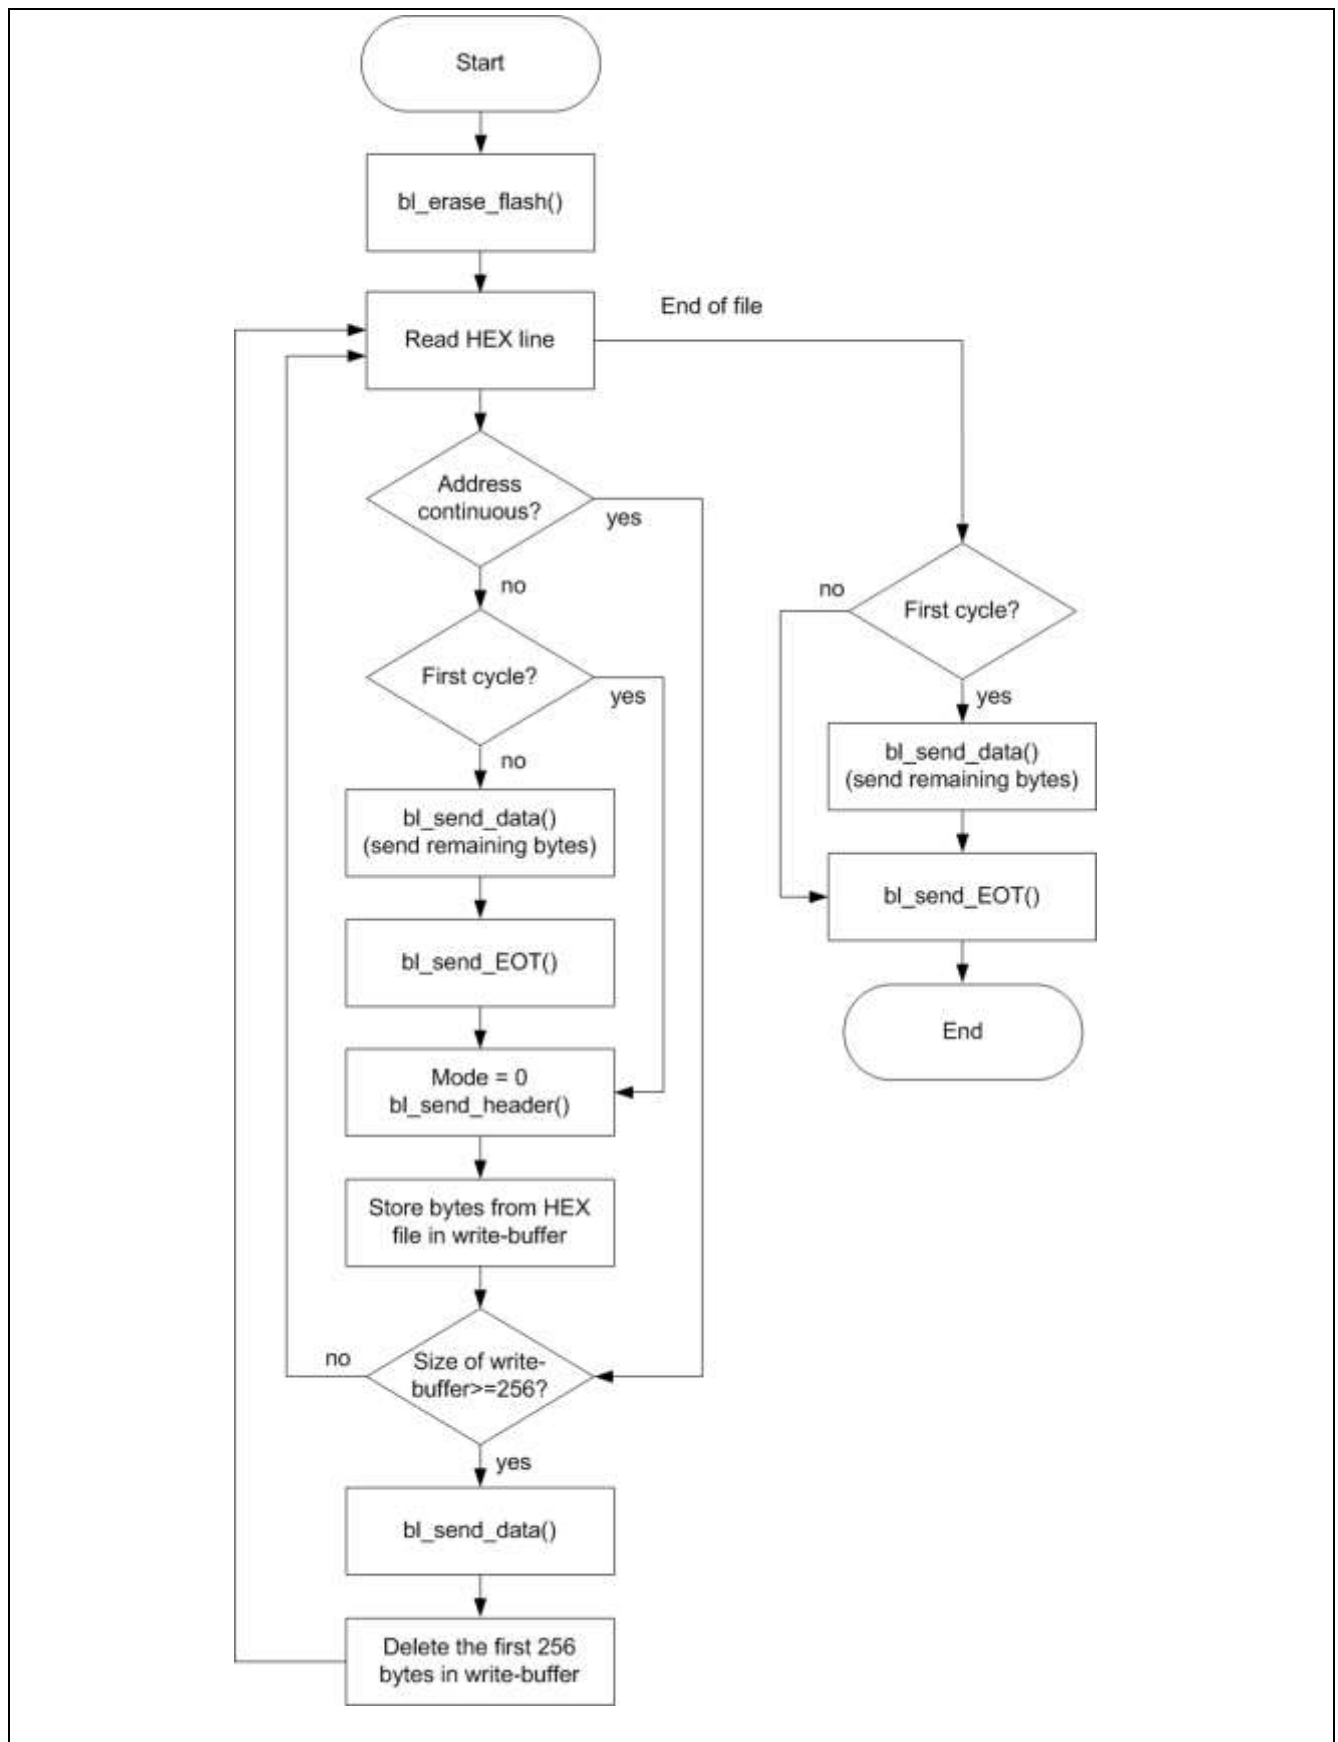

Figure 8 Flash programming procedure implemented in bl_download_flash()
- The Flash programming procedure is implemented in bl_download_flash() shown in Figure 8.